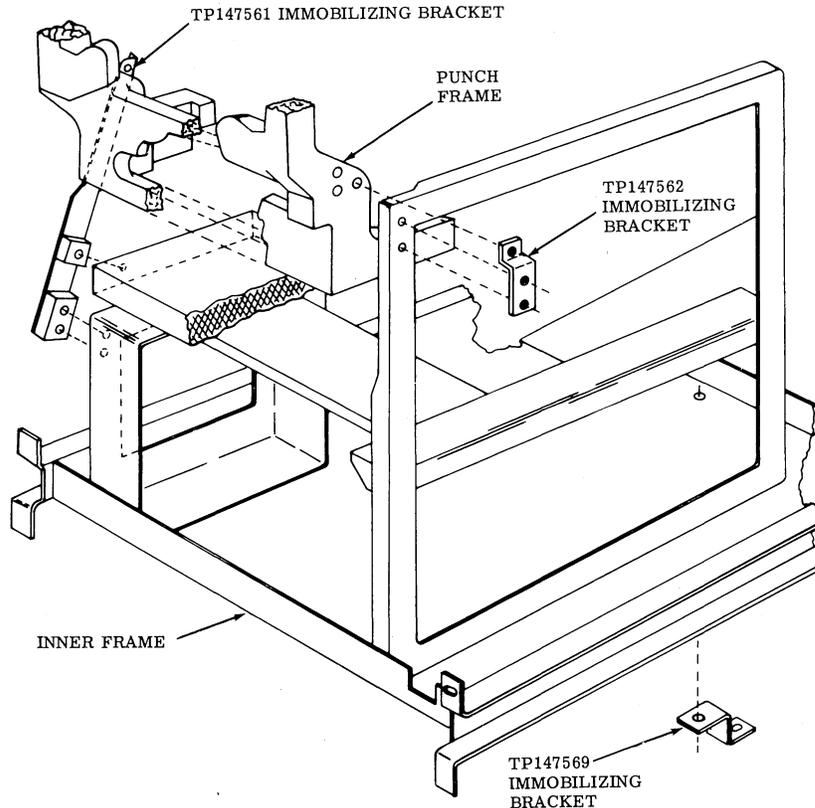

Figure 2 - Tape Receiver 5B Shipping Fastenings
2.03 Three immobilizing brackets (Figure 2) are used to secure the tape punch and its mounting frame during shipment. Remove the cabinet back panel to gain access to the TP147569 bracket. Remove this bracket, slide the punch assembly forward and remove the remaining two brackets.